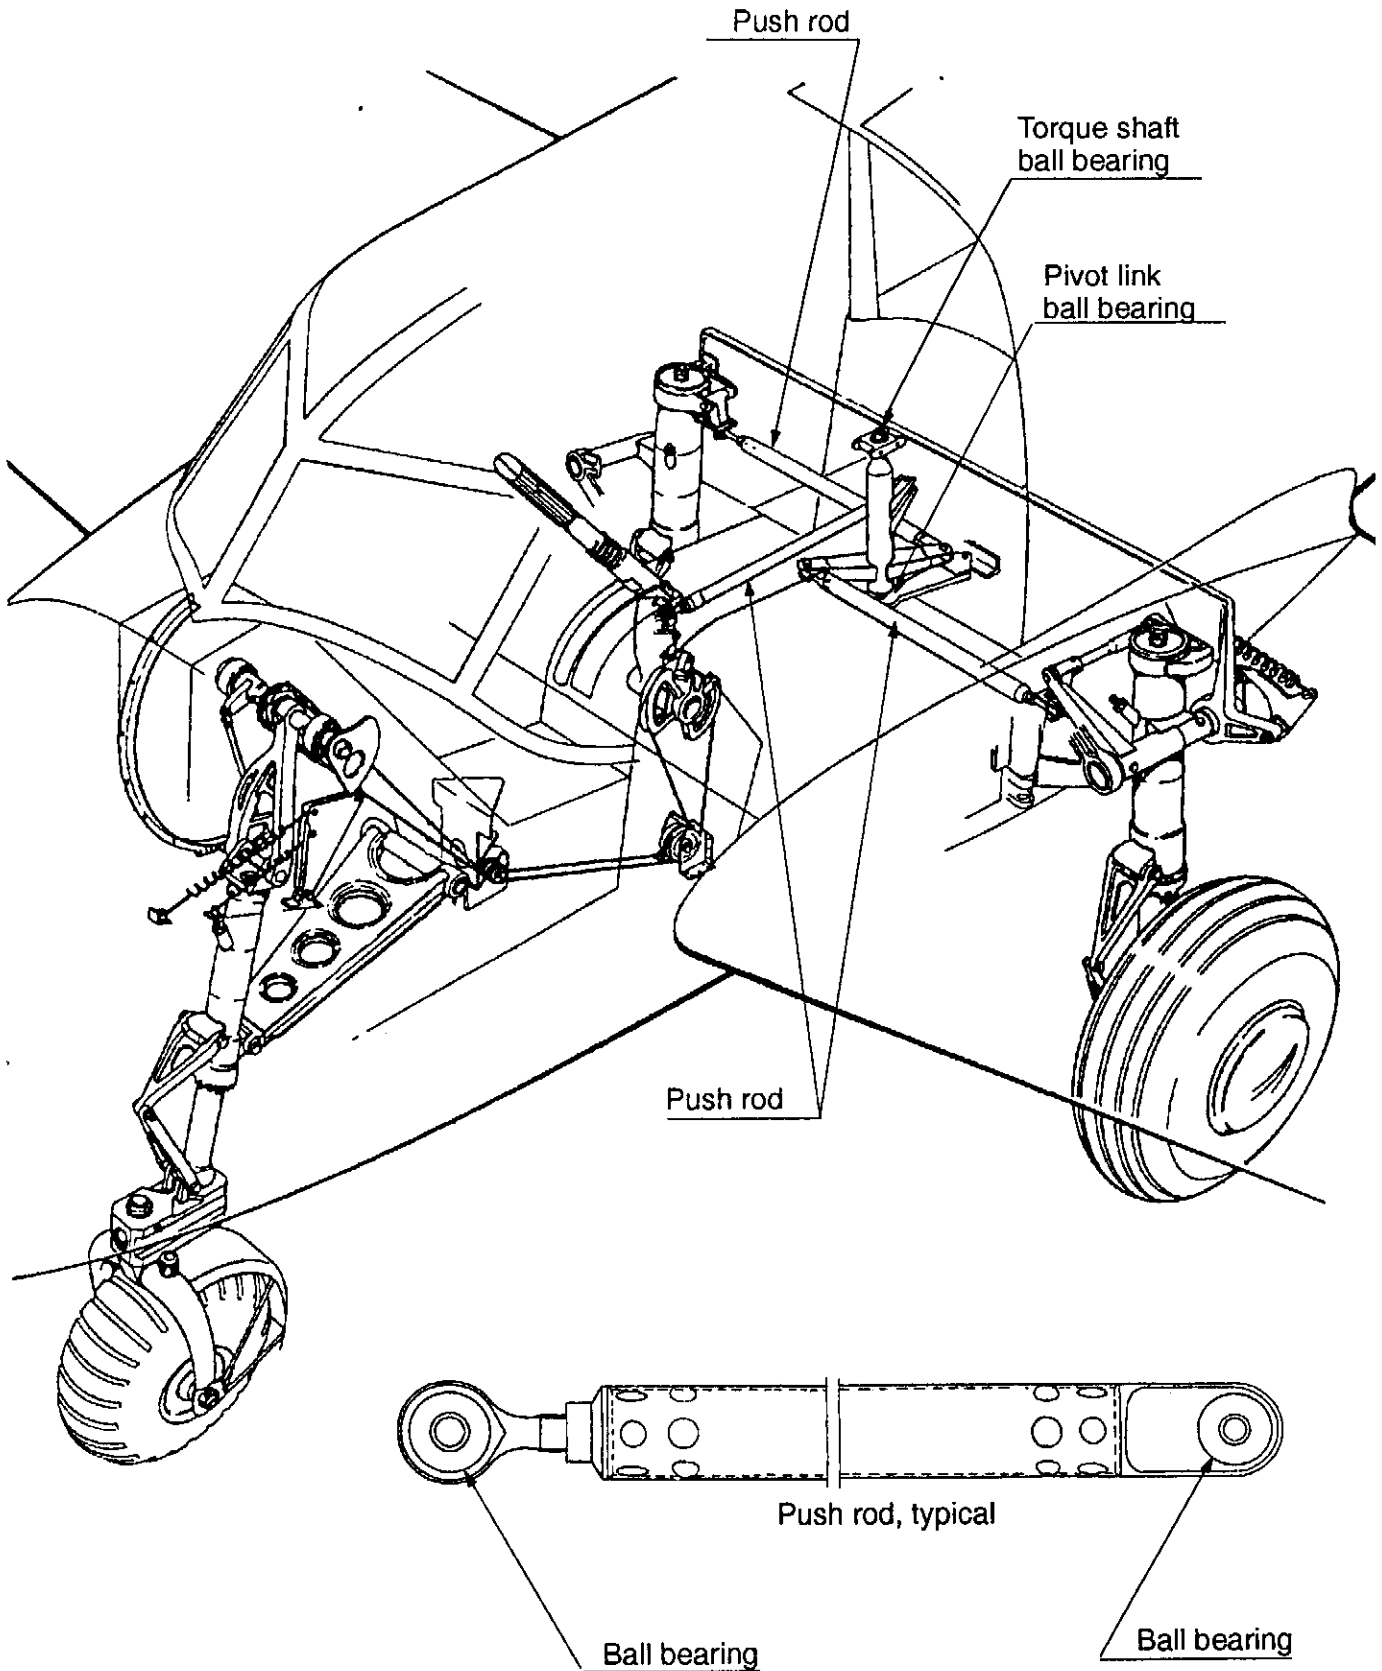

Figure 1.
- 1 Remove the pushrods according to figure 1.
- 1 Check that there is no play in the ball bearing, see figure 1.